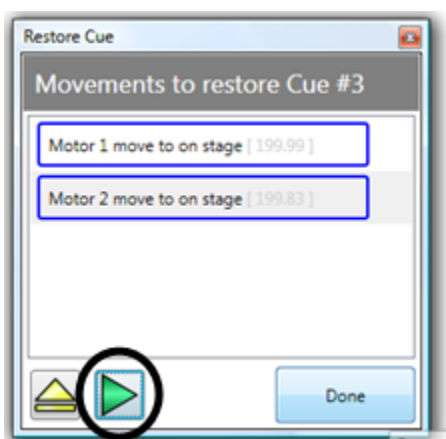

Figure 345
- After one movement is loaded, you can press the **Run** button in the **Restore Cue** window (Figure 345). Then—if it is safe—load the next movement and run it as well. *In the example below, two movements are running concurrently by starting Motor 2 before Motor 1 completes.*